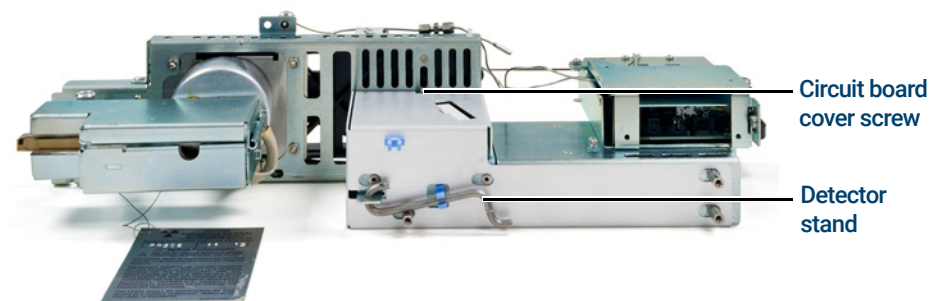

Figure 18. Detector module stand and circuit board cover
- 21** Remove the detector stand from the detector module assembly. See **Figure 18**.